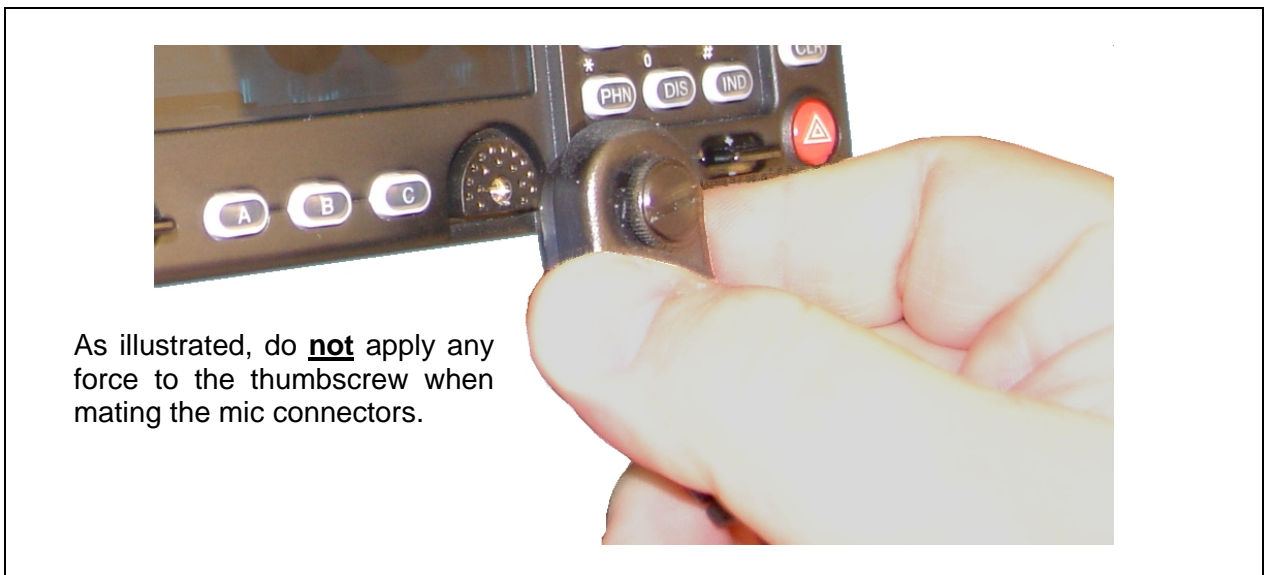

Figure 12-1: Attaching the Microphone to the CH-721 Control Head
1. As illustrated in Figure 12-1, grasp the mic’s connector with a thumb and index finger on the sides of the connector just adjacent to the thumbscrew.